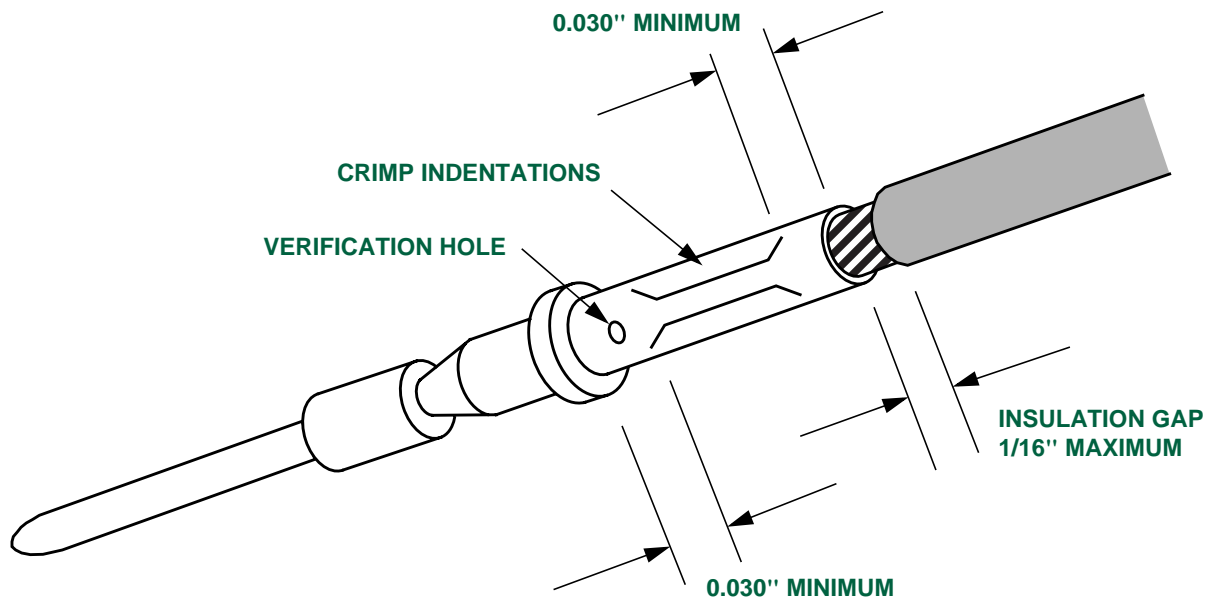

FIGURE 3 - VISUAL EXAMINATION OF CRIMPED CONTACTS
- 6.2.1 Crimped contacts shall be subjected to periodic visual examination as follows (see Figure 3):